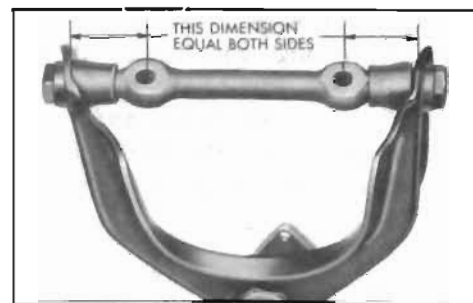

Figure 7-20—Upper Control Arm Shaft Position
5. Rotate shaft to make distance between shaft bolt holes and arm equal both sides as nearly as possible. See Figure 7-20.